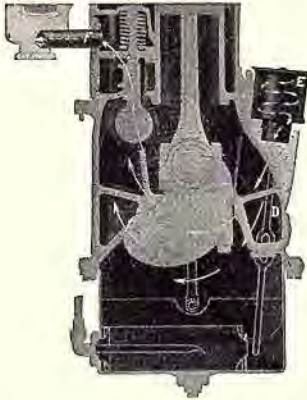

Fig. 12. Crankcase ventilation; Oldsmobile six, series E as an example.
Oil is poured through an opening (E, Fig. 12). The amount of oil in crankcase can be determined by an oil-level indicator (D, Fig. 12). Attached to the top of the oil level indicator is an air clearer which serves to extract all foreign matter from the air passing into the crankcase.
Approximately one-third of the air that passes through the carburetor is drawn through the crankcase through a pipe (F) leading from an opening in the valve cover to the carburetor air intake (Fig. 12). This air, after having been cleaned by the air cleaner (E) in the filler cap opening, unites with the more volatile parts of the lubricating oil (the unburned gasoline and water vapor which leaks down past the pistons as the left-over product of the combustion taking place in the cylinders) and carries a portion of it into the carburetor to be again admitted to the engine and burned.